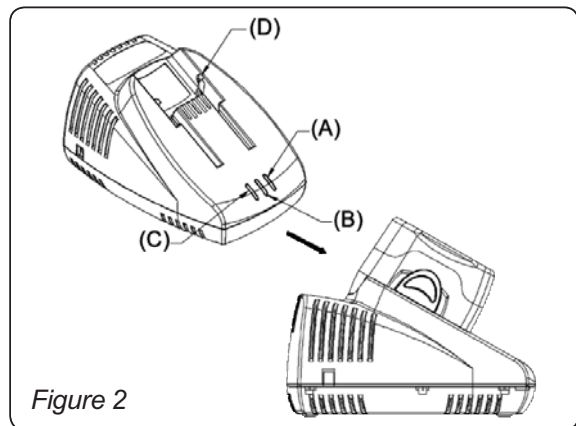
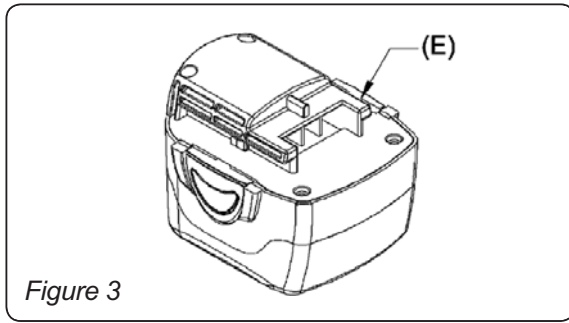

Figure 2
Figure 3
Make sure power circuit voltage is the same as that shown on the charger specification plate. Connect charger to power source. The orange light (A) Fig. 2, should light up. This indicates the charger is ready to begin charging.
Position battery pack on charger; align rails (Fig. 2, D) on battery charger with four tabs (Fig. 3, E) on battery pack. Slide battery forward onto charger until it stops.
The red light (Fig. 2, B) should begin to glow continuously, indicating that the battery pack is receiving a "Fast Charge". After approximately one hour, the "Fast Charge" indicator light (red) should go out indicating that the battery pack is fully charged and that the charger is now in a "Trickle Charge" mode (green light). The battery pack can be left on "Trickle Charge" until you are ready to use it.
CAUTION: When inserting battery pack onto charger, if the orange light (Fig. 2, A) starts to blink, and the green light (Fig. 2, C) begins to glow, indicating maybe battery temperature is too high or the battery voltage is too low, please leave battery pack on charger, it will be charged automatically when battery temperature is between 32°F (0°C) and 100°F (37.7°C) or battery voltage becomes normal. Then the red light (Fig. 2, B) should begin to glow continuously, and the green light will turn off.